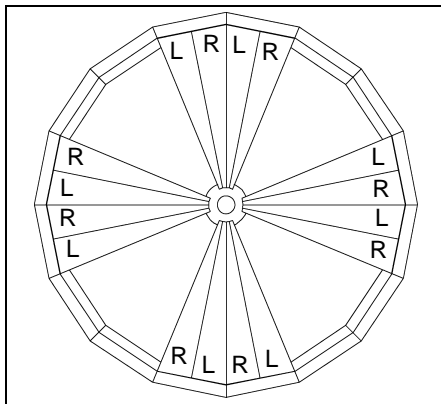
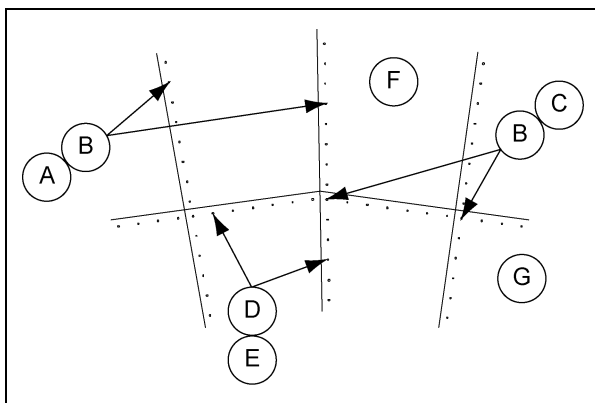
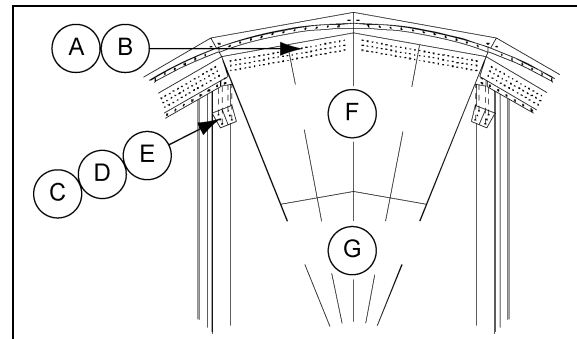
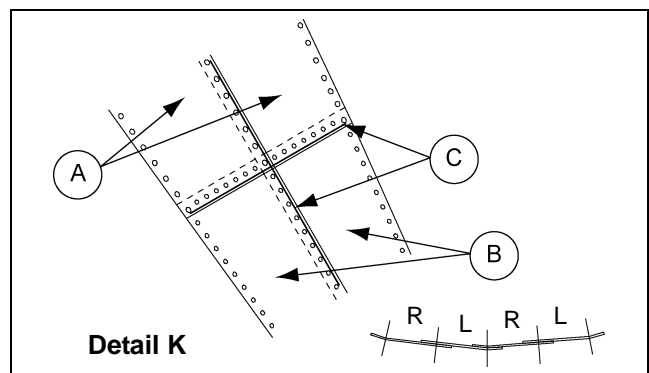

Figure 6D Hopper Panel and Discharge Collar Assembly
Figure 6E Detail J - Hopper Panel Bolt Usage
Figure 6F Hopper Panel Detail
Figure 6G Caulking and Lap (Viewed from Inside of Bin)
Begin assembling the two (2) piece hopper bottom by attaching a right and left pair or pairs of the top hopper panels to the compression angle ring (3/8" x 1" bin bolts (S-7487) and 3/8" nut (S-7489)), along with the back side splice plates which use (3/8" x 1-1/2" bin bolts (S-7488) and 3/8" nut (S-7489)). Refer to Figure 6F. All top panel seams use 5/8" x 1" hardware (S-4210) and 5/8" nut (S-4110). Once the top panels are positioned the bottom hopper panels may be attached to the top panels and discharge collar with 1/2" x 1" hardware (S-4492) and 1/2" nut (S-3729), at four (4) opposing points as shown in Figure 6D. A 5/8" x 2" bolt (S-4329) and 5/8" nut (S-4110) is used on all corners of the spliced hopper panels. Refer to Figure 6E for bolt usage on hopper panels. Caulking is required on all vertical and horizontal seams of the hopper bottom, (refer to Figure 6G). Complete this assembly by laying in alternate right and left panels moving around in one direction and lapping all sheets the same way. Do not tighten bolts until all hopper panels are attached to each other, the compression ring, splice plates and discharge collar.